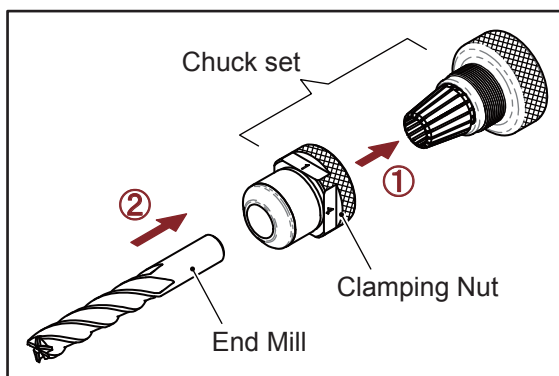
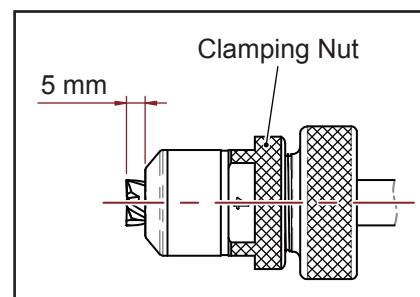

Fig. 5-2
Fig. 5-3
- 3) Screw in a little bit by clamping nut (Fig. 5-2 step ①), then insert end mill shank into the clamping nut (Fig. 5-2 step ②) until end mill is out of the clamping nut about 5 mm. (Fig. 5-3)